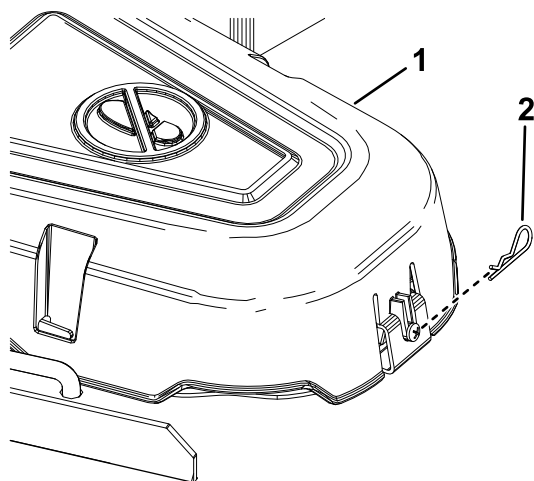

Figure 54
4. Remove the hairpin cotter and push in the tab on the cover to remove the pulley covers (Figure 54).